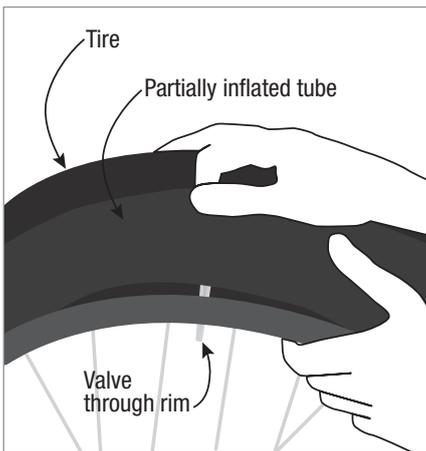

Figure 2
4. Slide the tube valve stem through the hole on the rim (Fig.2). If the valve stem has a lock nut, snug it to the rim but do not tighten fully. Then push the tube inside the tire.